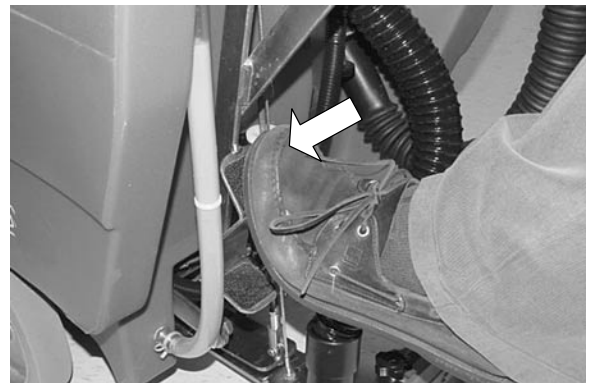

FIG. 3
2. Lower brush head. Step down firmly on top pedal and push pedal forward to lower (Figure 3).